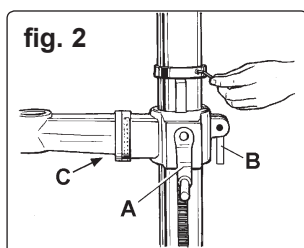

fig. 2
- 5.1.3. Install the rack collar and tighten firmly (fig.2).
- 5.1.4. Install the table adjusting handle (fig.2.A) and pivoted clamp bolt (the longer of the two - fig.2.B).
- 6.2.1. To adjust table up or down, loosen the clamp bolt (fig.2.B) then turn the bracket handle (fig.2.A).
- 6.2.2. To adjust table tilt, loosen the work table bolt (fig.2.C), remove locking pin (below bolt) and adjust to the desired angle using the angle scale, then retighten. When returning table to horizontal replace locking pin.
- 6.2.3. To turn the table around the column, loosen the rack collar slightly, then loosen the clamp bolt (fig.2.B). Turn the table to the desired position then secure the bolt and the rack collar.